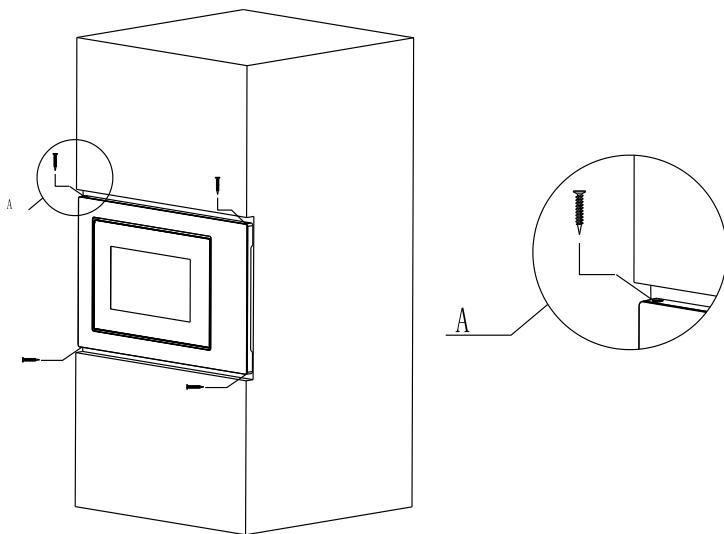

Fig. 4
- d) Use the screws of parts packing to secure the microwave oven in the cabinet. (Fig. 4)